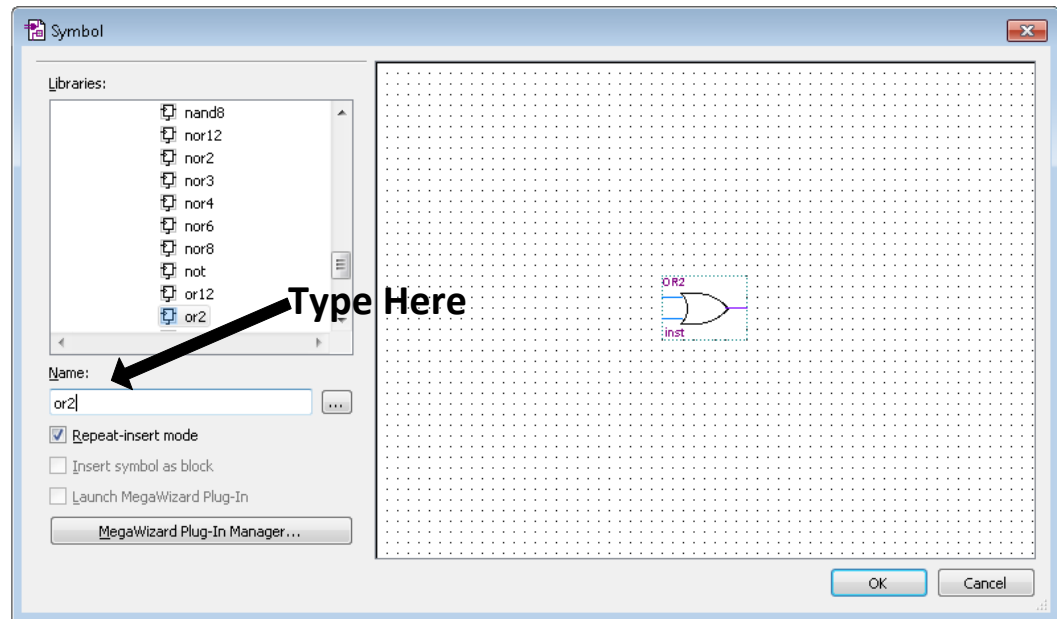

Figure 3. Symbol Selection Dialog box in Quartus II
- c. Now, click on the **Symbol Tool** button. A new dialog box will appear where in the Name text field type **or2** as shown in Figure 3.